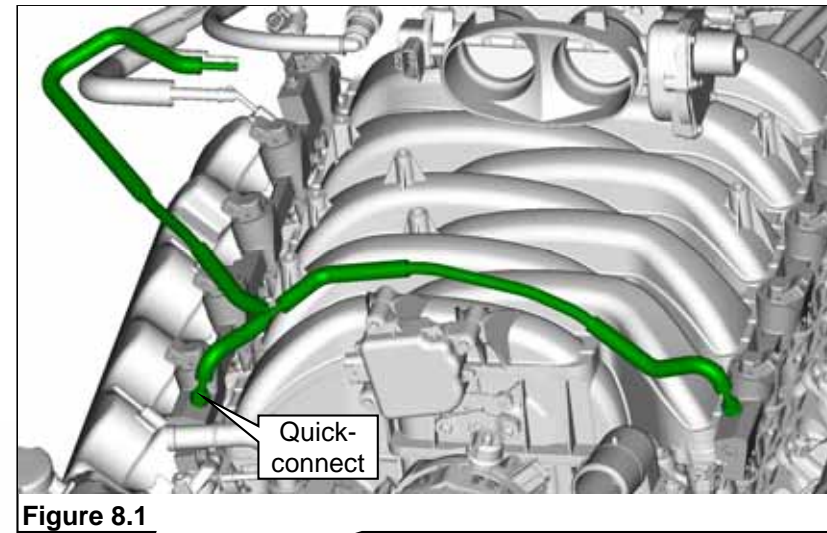

Figure 8.1
6. Orient and install fuel rail return line assembly (found in hardware kit P13FB-FUELLINES-A or B) onto forward ends of fuel rails. Push to connect fittings. **Figure 8.1.**